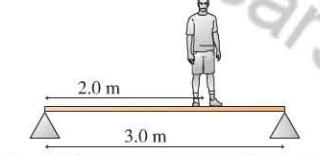

FIGURE P8.36
36. An 80 kg construction worker sits down 2.0 m from the end of a 1450 kg steel beam to eat his lunch, as shown in Figure P8.36. The cable supporting the beam is rated at 15,000 N. Should the worker be worried?